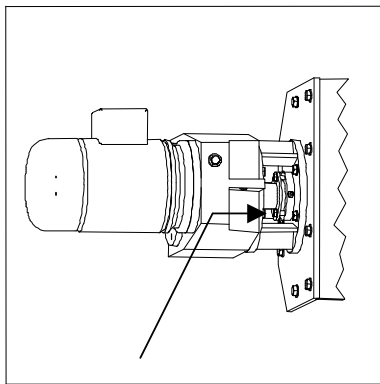

Figure 2.5.4b - Gland Cover Screws
5. Remove the gland cover screws from the packing box (see Fig 2.5.4b).